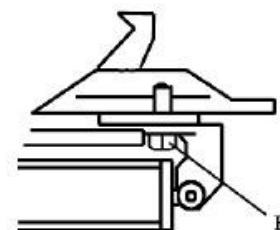

Fig 22
Note: After the first 20 days of use, retighten the jaws with tightening screws (B) on the Turntable (Fig 22)